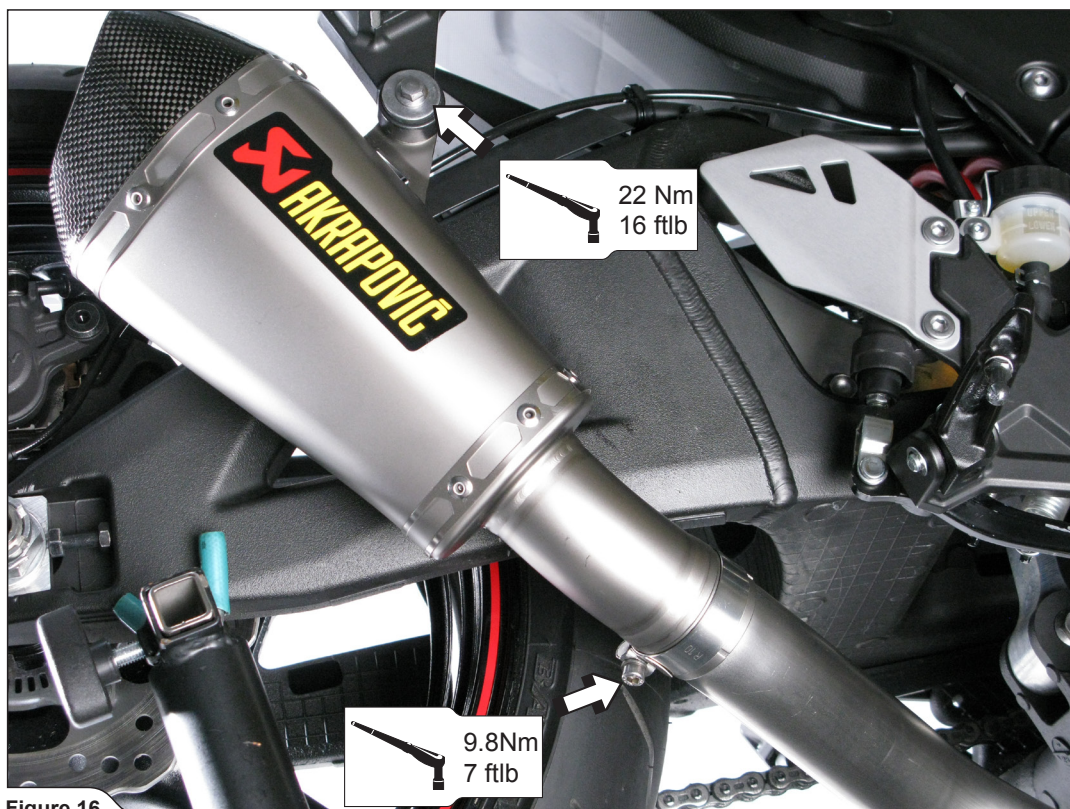

Figure 16
6. **For optional link pipe only:** slide the muffler onto the outlet side of the link pipe. Align the muffler in respect to the motorcycle and tighten the muffler bracket onto the passengers foot rest (using original bolt and nut) and metal clamp to the specified torques (**Figure 16**).